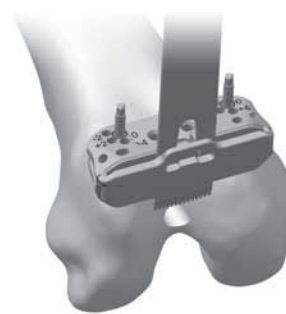

Fig. 130
- Cut the distal femur through the cutting slot in the cutting head, using a 1.27mm (0.050 in.) oscillating saw blade (Fig. 130).